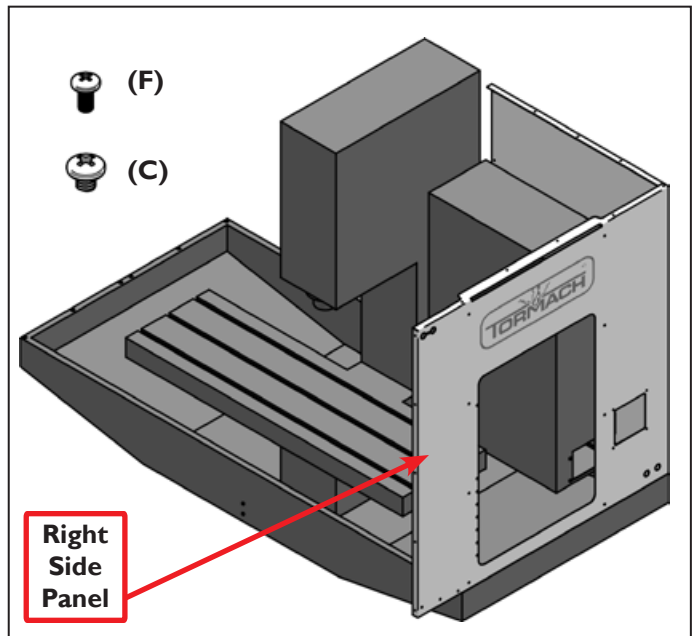

Figure 4
9. Place the Right Side Panel (E.16) on top of the right side of the machine stand (see **Figure 4**).